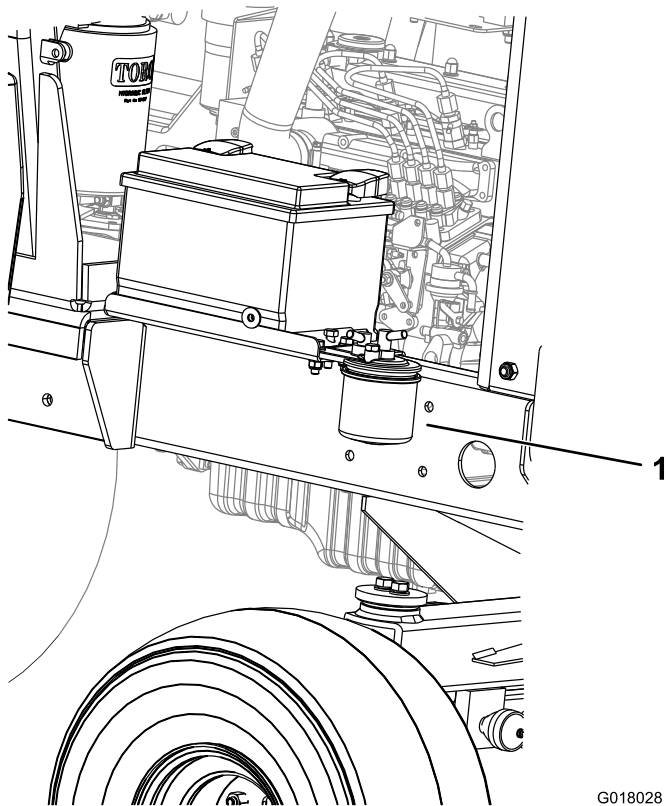

Figure 43
1. Place a clean container under the fuel filter canister (Figure 43).